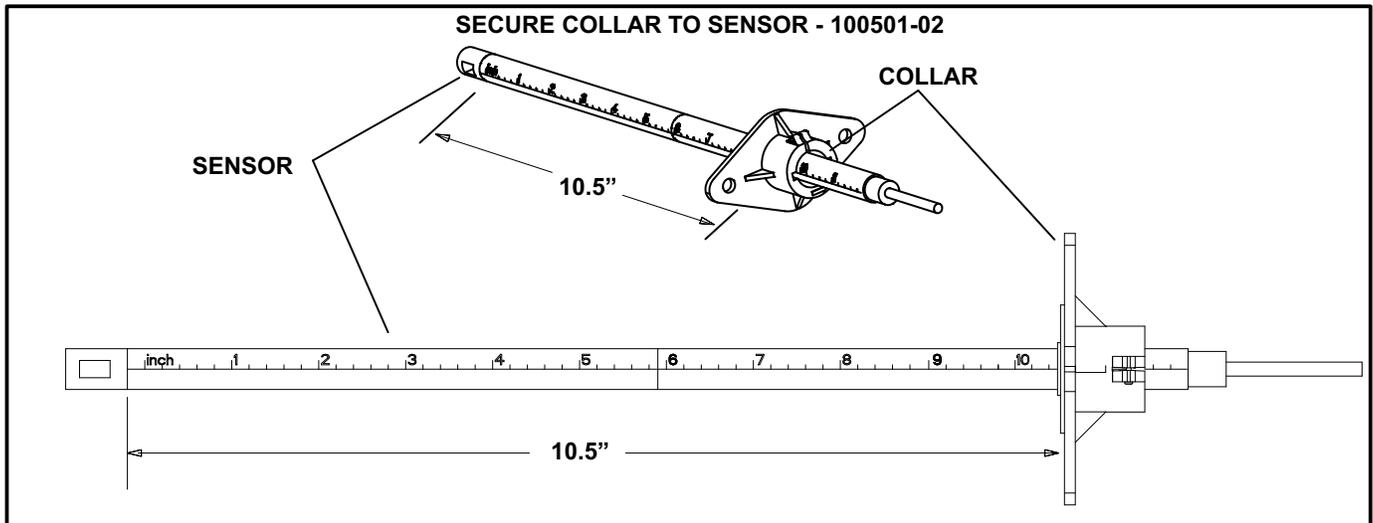

FIGURE 1
- 1- Install collar onto sensor at the 10.5 mark. See figure 1. Secure with the screw provided with sensor.